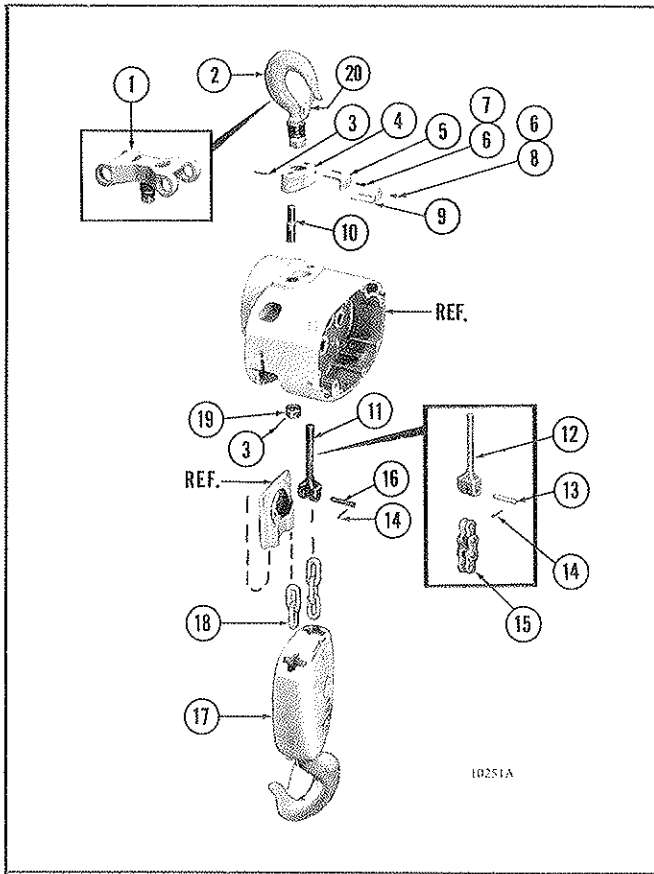

Figure 2. UPPER SUSPENSION,
* Refer to Figure 2 for 2 Ton Model Upper Suspension, Load Chain and Lower Block Parts.